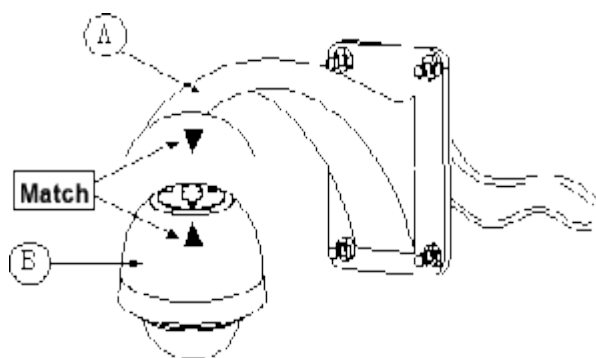

Figure 10
- d) Match the “▼” of the bracket (A) to the “▲” of the dome (B) as Figure 10.